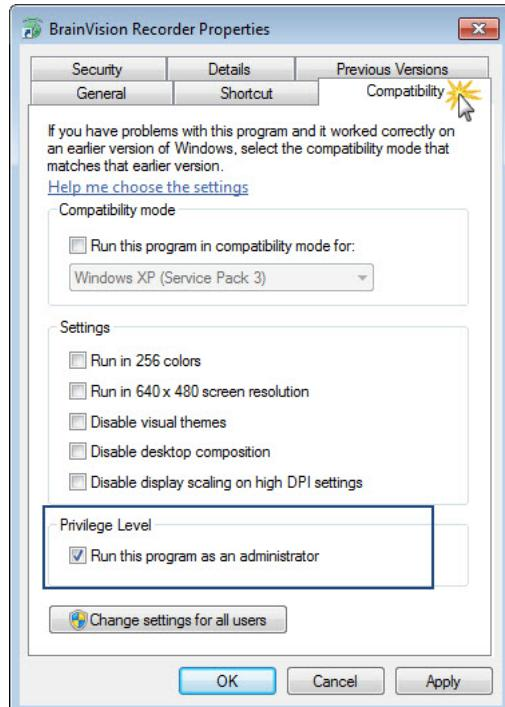

Figure 3-2. Always run Recorder as an administrator
- ▶ If you always want to start *Recorder* as administrator, right-click the *Recorder* desktop short-cut, choose **Properties** from the context menu and then open the **Compatibility** tab in the dialog box that appears. Under **Privilege Level**, select the **Run this program as an administrator** box (see Figure 3-2).